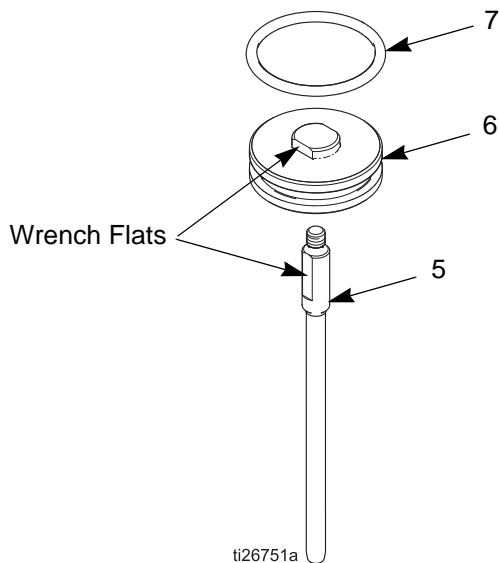

FIG. 14 Air piston and fluid plunger
1. Use the wrench flats (see FIG. 14) located on the piston (6) and plunger (5) to loosen and remove the plunger from the piston.
2. Clean the dried thread locker from the internal threads of the piston (6) as much as possible.
3. Apply a thin bead of high strength thread locker to the external threads of the new plunger (5).